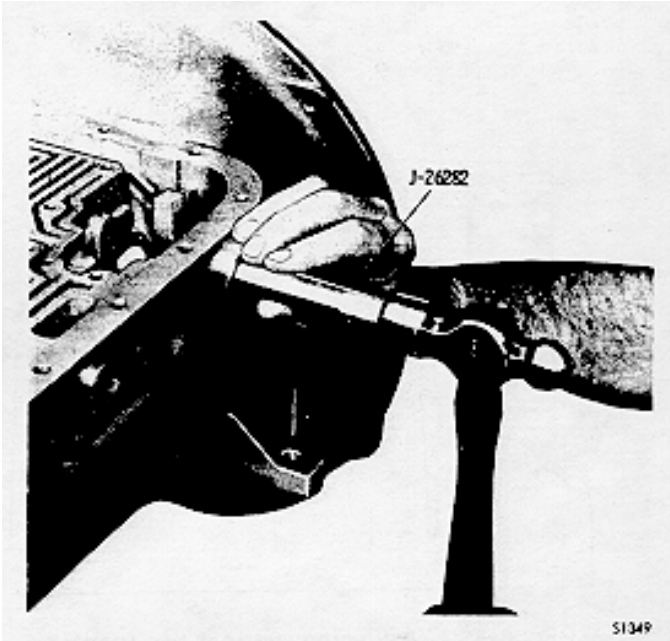

Fig. 6-66. Installing selector shaft oil seal
(1) If snapping 9 was removed, install a new snapping. Be sure to inspect the bore into which bearing 4 (B, foldout 9) fits for damage.
(2) Coat the inside diameter of lip-type oil seal 37 (B, foldout 9) with oil-soluble grease and coat the outside diameter of the seal with a nonhardening sealant. Install the seal, lip first, into transmission case 11 (B, foldout 8), using special installer J-26282. Figure 6-66 shows the installation.